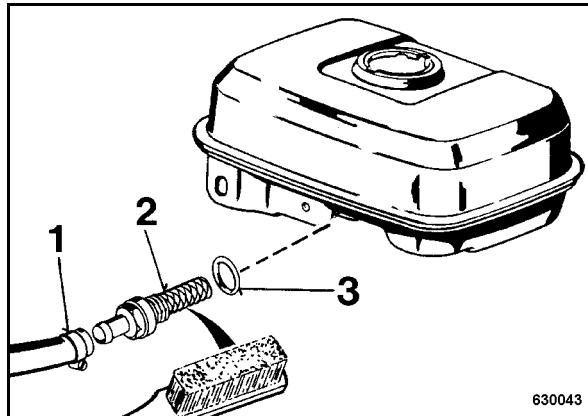

Fig. 54
- Open the hose clamp (1) (Fig. 54), pull off the hose.
- Unscrew fuel screen (2).
- Check the seal (3) for damage, change if necessary.